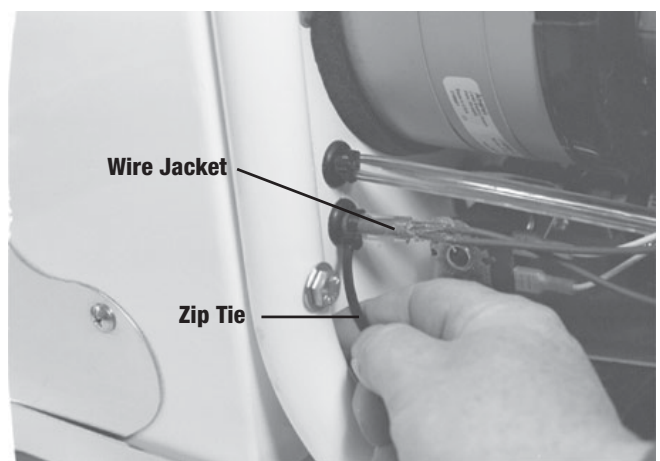

Figure 13
6. Insert new float switch. Moisten float switch's wire jacket (fig. 13) before pushing through rubber grommet. Once installed firmly zip-tie wire jacket as shown (fig. 13).